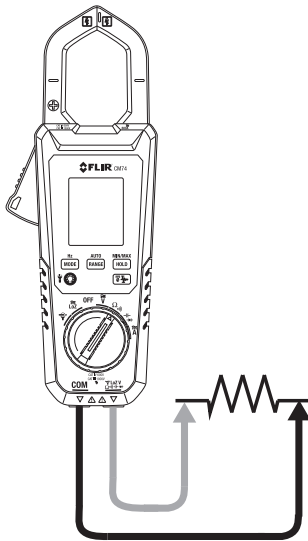

Figure 5.5 Resistance and Continuity Measurements
2. Insert the black probe lead into the negative COM terminal and the red probe lead into the positive Ω terminal. Refer to Fig. 5-5 for connection example.